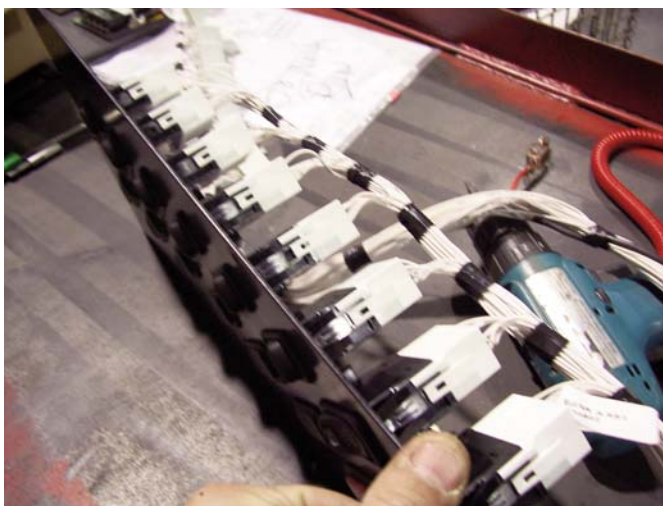

Figure 8
9. Install new harness onto the switches. **Figure 8**